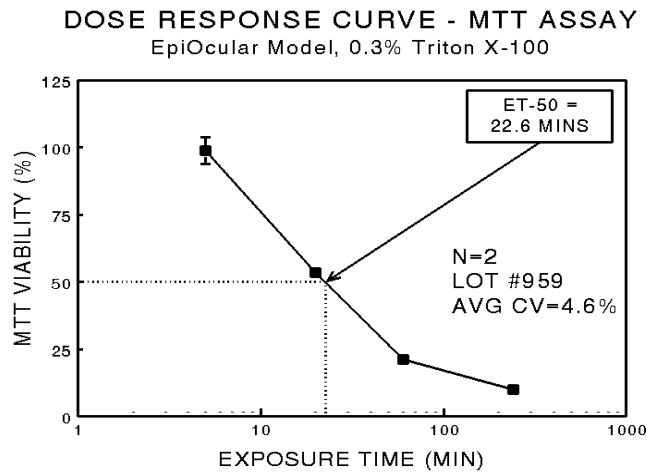

Figure 5: Typical dose response curve for EpiOcular tissues following Exposure to the positive control, 0.3% Triton X-100.
e) **Determine ET-50:** Using a semi-log scale, plot the % viability (linear y axis) versus the dosing time (log x axis). By interpolation, the time at which the % viability has dropped to 50% is considered the ET-50 value. See Figure 5. Note: Interpolation for the ET-50 is best done mathematically. An Excel spreadsheet to facilitate ET-50 calculations is available from MatTek Corporation.
f) **Positive control:** 0.3% Triton X-100 is provided with the kit. The typical ET-50 falls between 15 and 45 minutes. See Figure 5. Recommended dosing times are 15 and 45 minutes along with 4 minutes if enough tissues are available. Alternatively, MatTek tests every lot of EpiOcular with 0.3% Triton X-100 – these data are available by Wednesday each week.